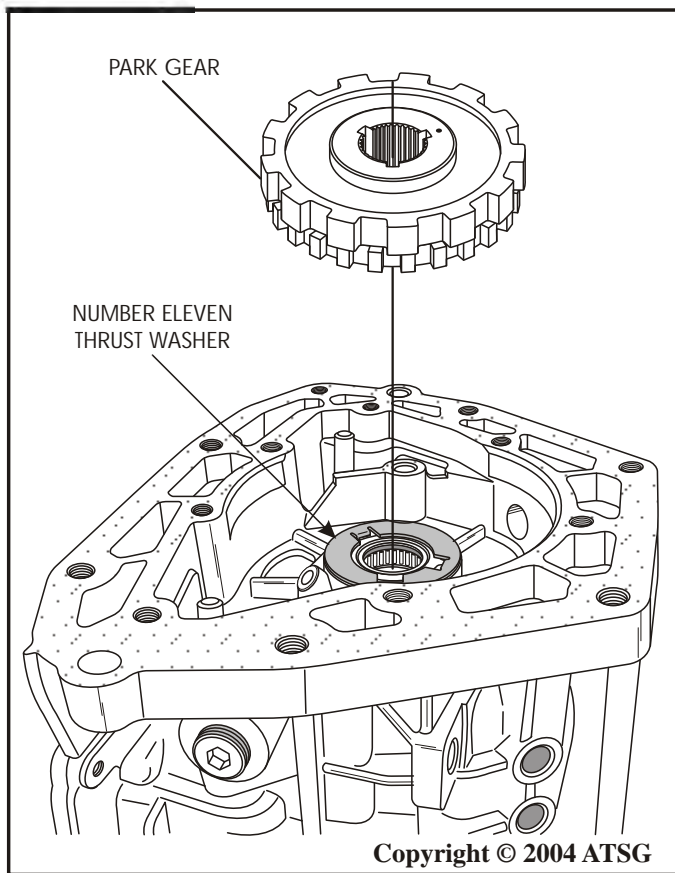

Figure 54
65. Remove the park gear, as shown in Figure 54.